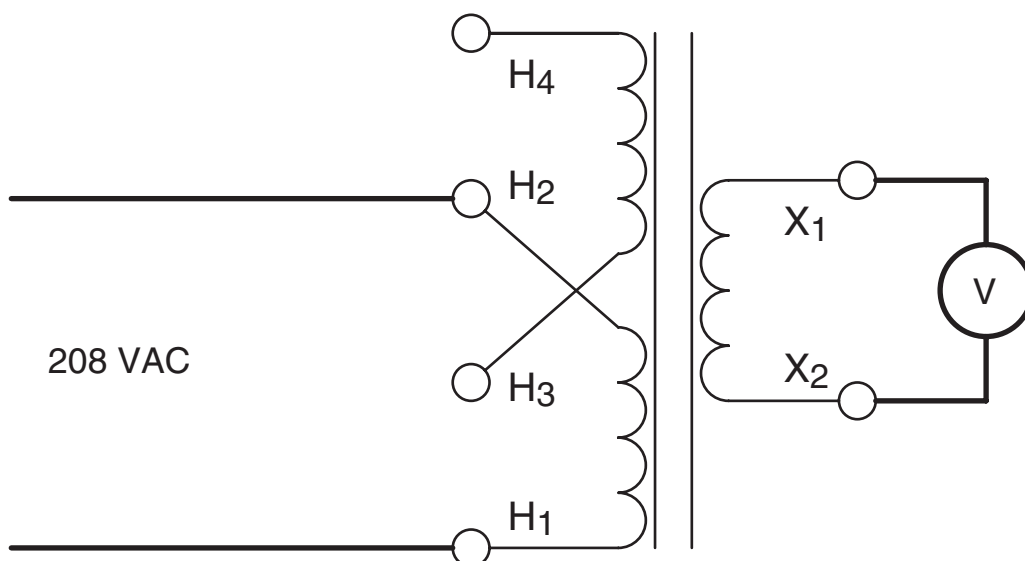

Figure 21-11 Measuring the secondary voltage.
1. Connect the circuit shown in Figure 21-11.